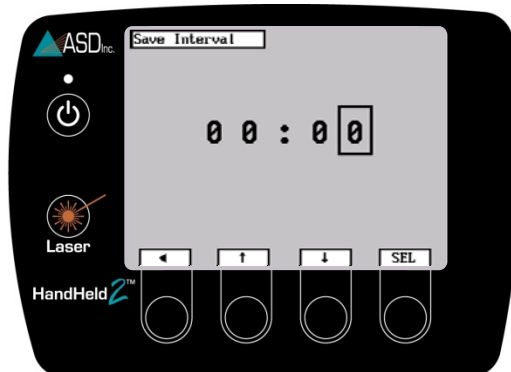

Figure 2-36: Adjust Save Interval Numbers
- Step 3 Although this should initially be set at 0, the number can be changed by pressing the left pointing arrow to move to the desired number position and using the up and down arrow buttons to set the numbers. If it is necessary to return to the first character position, press the right arrow button repeatedly (Figure 2-36).